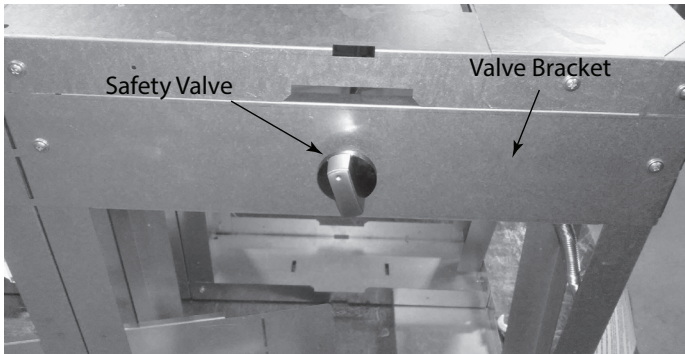

Figure 5.5 Valve Bracket
1. When mounting the safety valve, the included valve bracket should be used. The safety valve can be directly attached by screwing it to the table in provided mounting holes. See Figure 5.5.